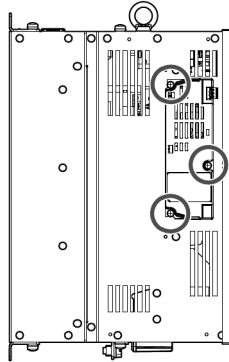

Figure 17: Location of Screws
7. Use a Phillips screwdriver (M4) and the screws included in the option package to fasten the option to the drive in the three locations shown in Figure 17.